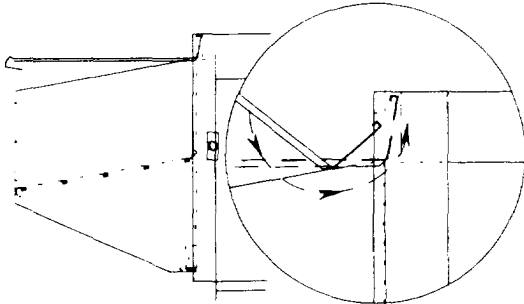

Figure 39: Installing Top Section
18. As the top nears the frame, lift the hood top and continue pushing until the edge of the top clears the top lip as shown in Figure 39.
19. Lower the hood top making sure that the edge of the hood top catches the lip of the frame as shown in Figure 39.